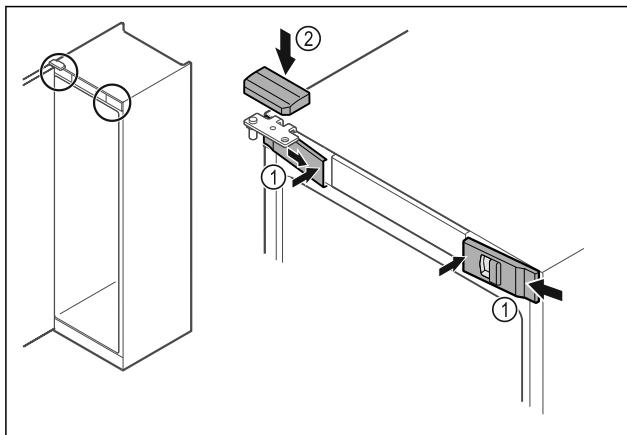

Fig. 55
- ▶ Hook in the front covers Fig. 55 (1) on the side and snap them into place on the inside.
- ▶ Snap on the top cover Fig. 55 (2) from above.